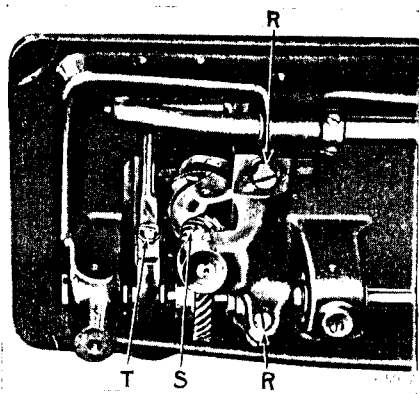

Fig. 17. Adjustment of Hook Saddle
Loosen the two screws in the hook shaft gear (S, Fig. 17) and turn the sewing hook until the point of the hook is at the centre of the needle, after which securely tighten the two screws in the gear, leaving just enough play in the shaft for lubricating purposes.
Turn the balance wheel over toward you until the point of the sewing hook is at the centre of the needle. Loosen the two screws (R, Fig. 17) underneath the bed of the machine and move the hook saddle to the right or left, as may be required, until the point of the hook is as close to the needle as possible without striking it, then securely tighten the two screws (R).
Remove the throat plate, feed dog and the bobbin case opening lever. Also remove the bobbin case, then take out the two screws from the hook shaft gear (S, Fig. 17) and lift out the sewing hook.
Remove the throat plate; clean the lint and dust from between the feed points and replace the throat plate; tip the machine back and turn the balance wheel towards you until the feed dog is at its highest position; loosen screw (T, Fig. 17) in the feed lifting cam fork on the feed bar and raise or lower the feed dog, as may be required, and retighten the pinch screw (T).